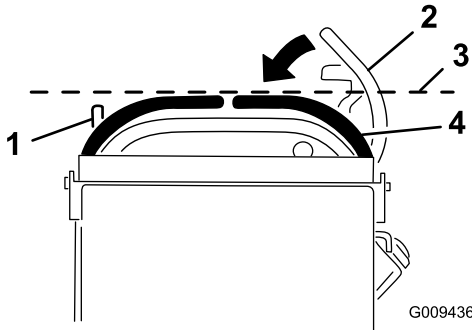

Figure 75
3. Push the motion-control levers down out of the NEUTRAL-LOCK position (Figure 75).
4. Check if the right motion-control lever aligns horizontally with the left motion-control lever (Figure 75).